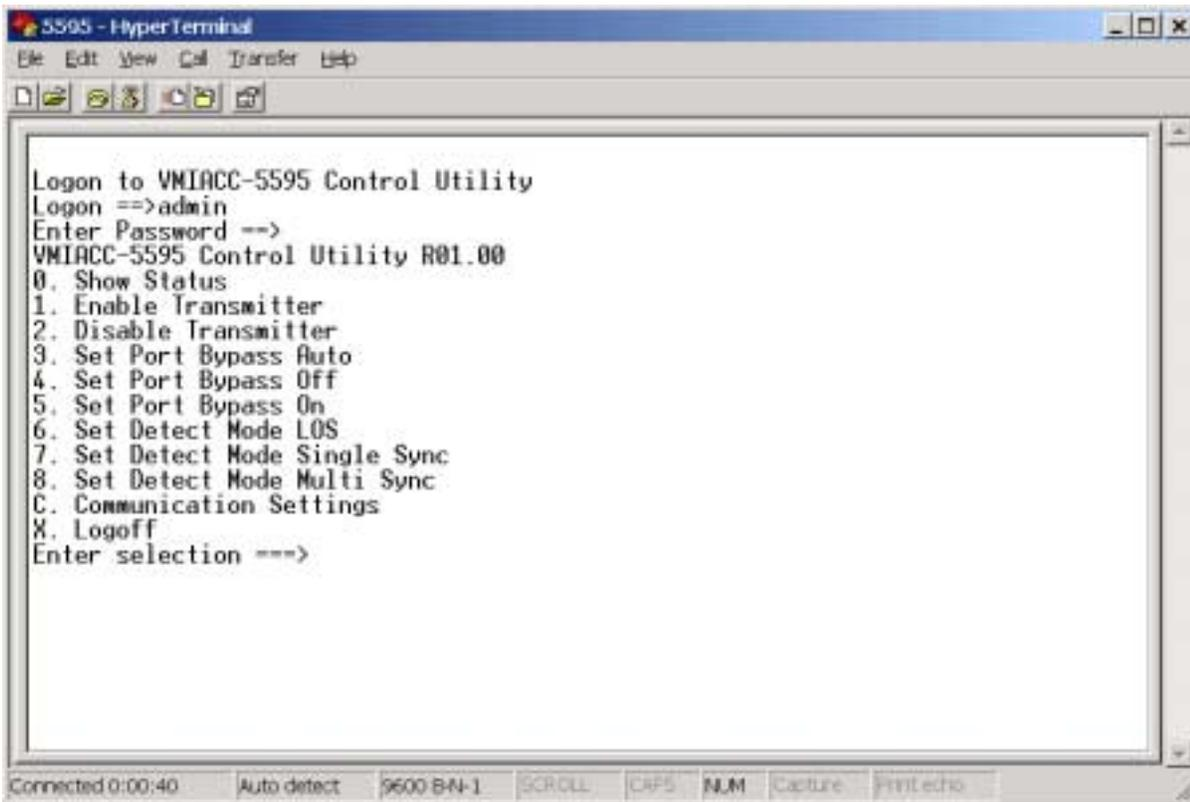

Figure 1-18 Control Utility Status Window
8. Type a zero (0) to show the current status of the VMIACC-5595. See Figure 1-18 on page 36.